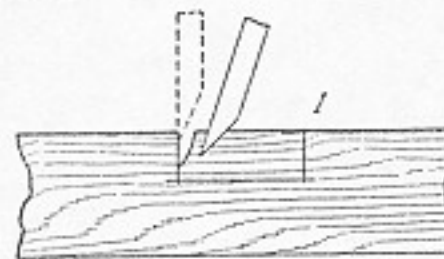

Fig. 183. Positions of chisel in chiseling gain joint.
3. The gain is chiseled out with a $\frac{3}{4}$ -in. chisel. The beveled side of the chisel is held on the waste side of the line, and light blows are struck with a mallet, being careful to follow the lines (Fig. 183).